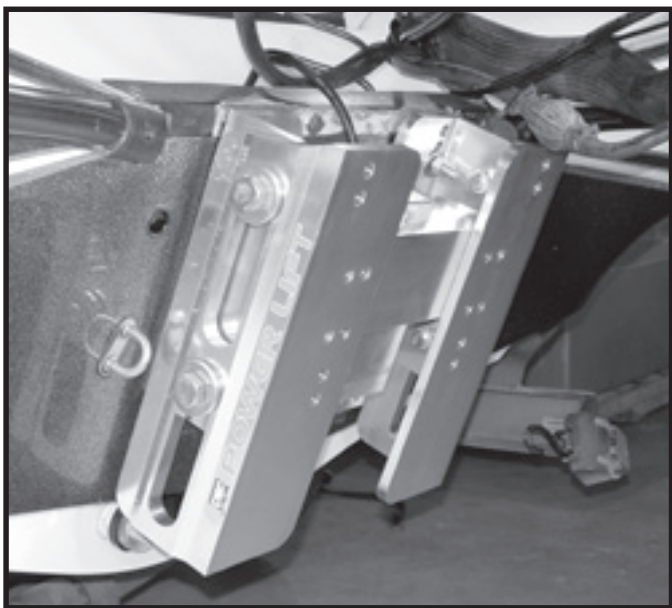

FIG. 12
Step 6: Fasten the unit to the transom with the nuts previously used for the motor, making sure to use a flat washer and a lock washer before the nut. If the bolts in the transom are protruding too far into the Power Lift structure to cause a clearance problem, then these bolts must be redirected from the inside of the Power-Lift through the transom. (Fig. 12)